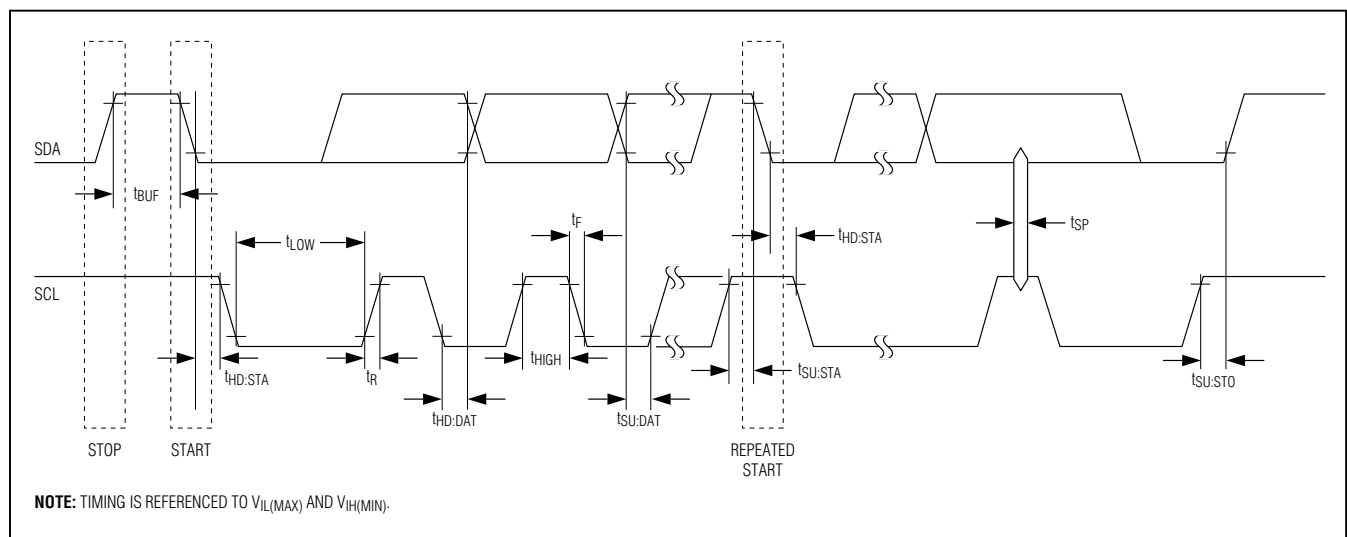

Figure 12. I2C Timing
**START Condition:** A START condition is generated by the master to initiate a new data transfer with a slave. Transitioning SDA from high to low while SCL remains high generates a START condition. See Figure 12 for applicable timing.
**STOP Condition:** A STOP condition is generated by the master to end a data transfer with a slave. Transitioning SDA from low to high while SCL remains high generates a STOP condition. See Figure 12 for applicable timing.
**Repeated START Condition:** The master can use a repeated START condition at the end of one data transfer to indicate that it will immediately initiate a new data transfer following the current one. Repeated STARTs are commonly used during read operations to identify a specific memory address to begin a data transfer. A repeated START condition is issued identically to a normal START condition. See Figure 12 for applicable timing.
**Bit Write:** Transitions of SDA must occur during the low state of SCL. The data on SDA must remain valid and unchanged during the entire high pulse of SCL plus the setup and hold time requirements (Figure 12). Data is shifted into the device during the rising edge of the SCL.
**Bit Read:** At the end of a write operation, the master must release the SDA bus line for the proper amount of setup time (Figure 12) before the next rising edge
**Acknowledgement (ACK and NACK):** An acknowledgement (ACK) or not-acknowledge (NACK) is always the 9th bit transmitted during a byte transfer. The device receiving data (the master during a read or the slave during a write operation) performs an ACK by transmitting a zero during the 9th bit. A device performs a NACK by transmitting a one during the 9th bit. Timing (Figure 12) for the ACK and NACK is identical to all other bit writes. An ACK is the acknowledgment that the device is properly receiving data. A NACK is used to terminate a read sequence or as an indication that the device is not receiving data.